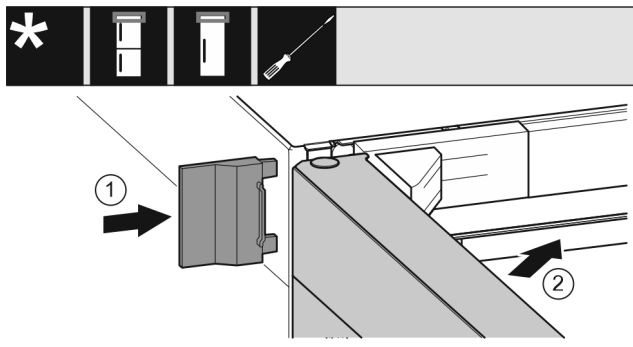

Fig. 26
- ▶ Slide on the outer cover Fig. 26 (1).
- ▶ Close the top door Fig. 26 (2).